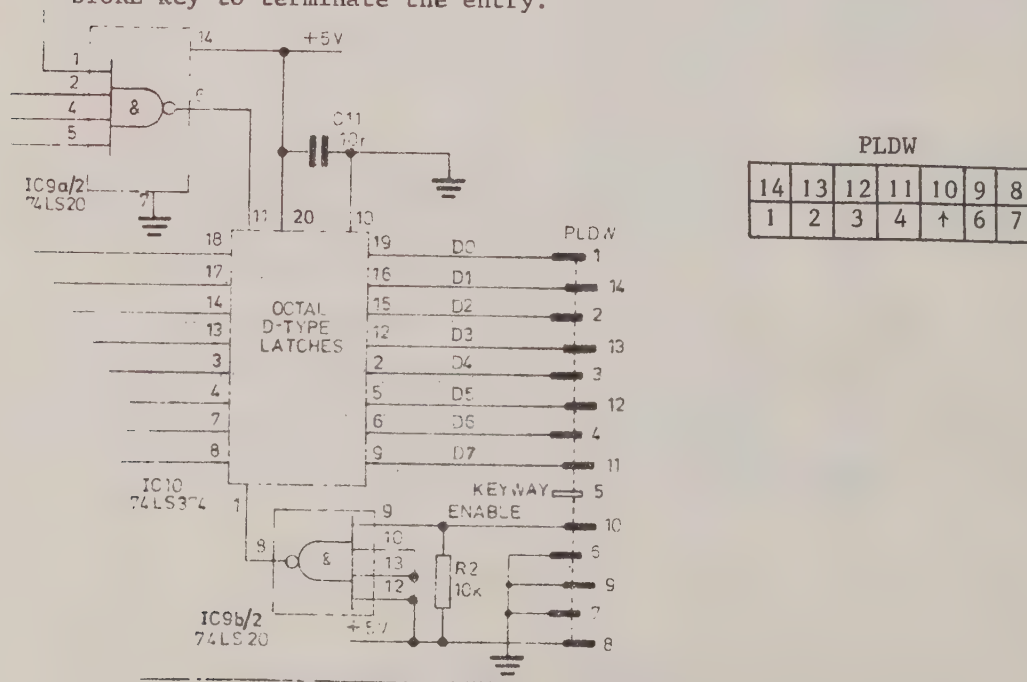

Fig. 7 GPIB auxiliary output plug and socket connections
54. Connections from the auxiliary output are best made using the IDC ribbon cable connector (provided with the Optional GPIB interface kit). The plug PLDW, pin 5 may be keyed to prevent incorrect insertion of the IDC connector. Pin connections and circuit detail are as shown below in Fig. 7.